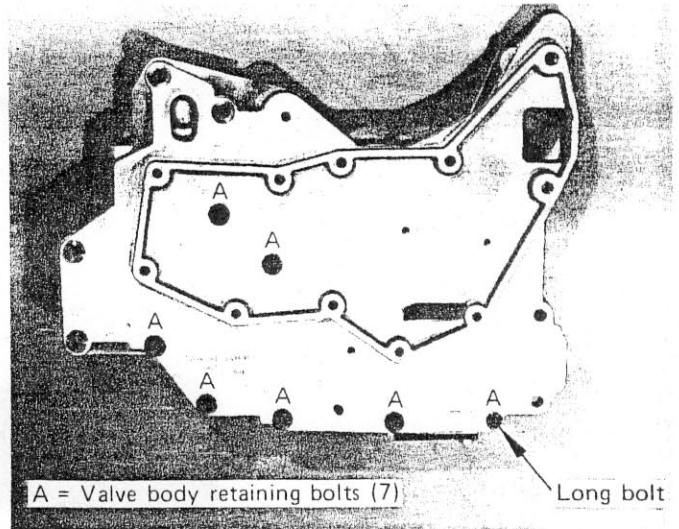

FIGURE 5
**STEP 7.** Remove the remaining valve body bolts as shown in Figure 5. Note these are short bolts with one long bolt. The valve body consists of three parts. The thick aluminum housing with all the valves is called the **casting**, a thin aluminum plate called a **transfer plate** that the filter was attached to, and a thin steel plate called a **separator plate**.
separator plate. Hold the valve body halves together and install six short bolts and one long bolt in place. (See Fig. 5) Tighten bolts **finger tight**.